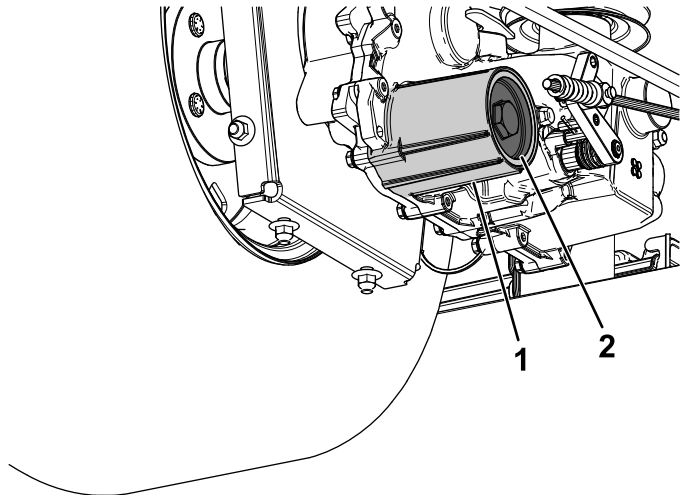

Figure 80
7. Remove the hydraulic-fluid filter cover from the transaxle to drain the fluid (Figure 80).